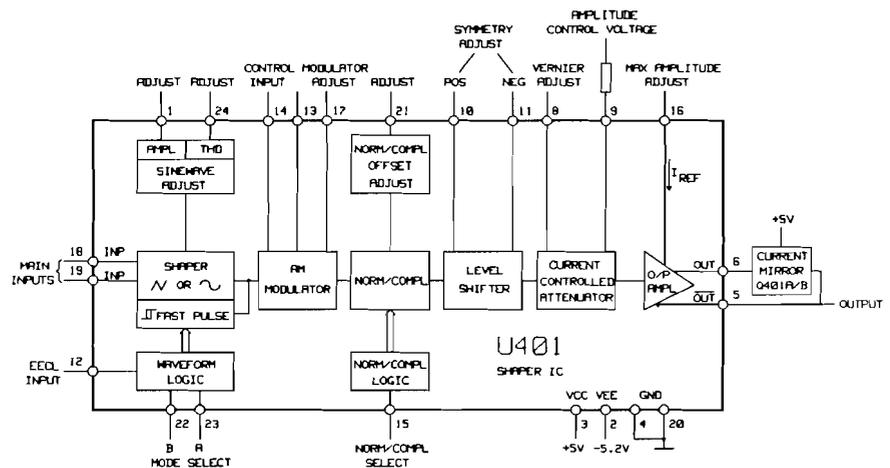

Figure 10.4-1. Shaper IC Block Diagram
**Shaper IC** The shaper IC U401, shown in Figure 10.4-1, is a high-performance signal-control circuit which operates either as a linear pre-amplifier or as a triangle-to-sine converter.